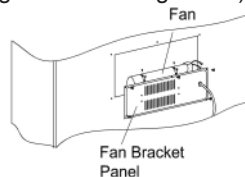

Figure 23- Fan
2. Mark or tag each wire removed for its exact reconnection. Remove the four screws from the fan. When installing, reverse the steps above. (See Figure 23 and Figure 26)